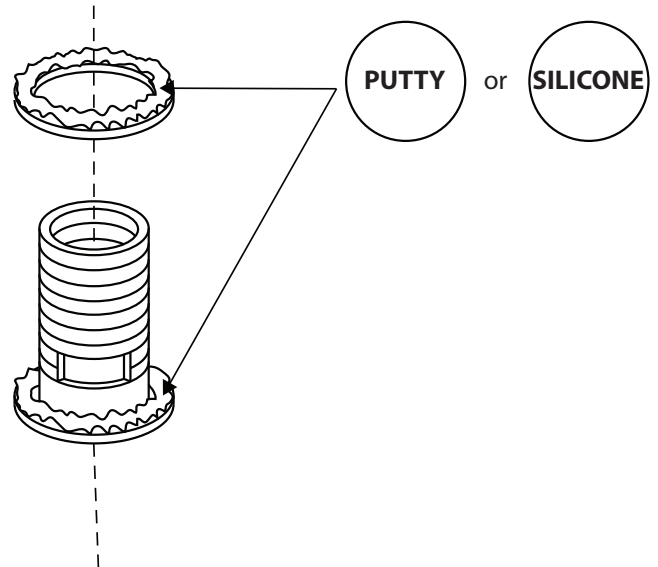

Figure 3
6. Apply a bead of clear silicone or plumbers putty around the Drain Body and pass it through the drain hole (figure 3).
7. Apply plumbers putty to the Washer and slide it over the bottom of the Drain Body (figure 3).